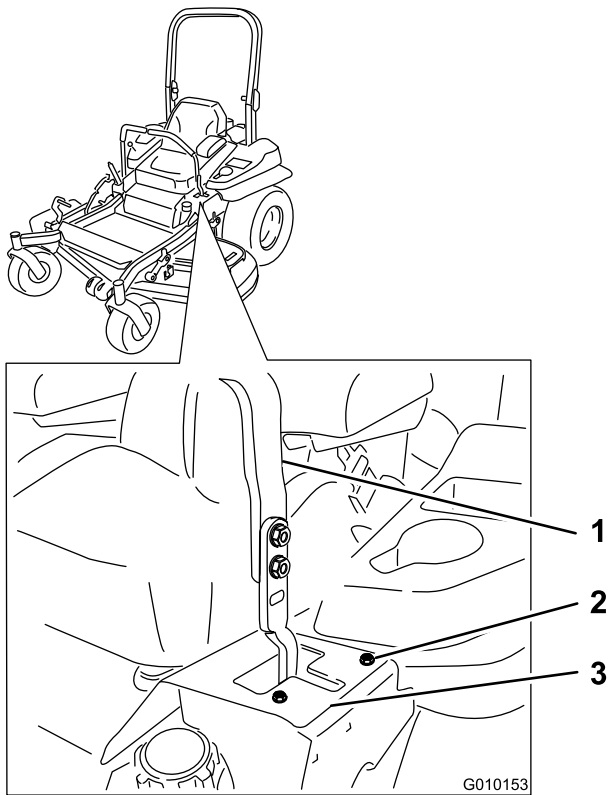

Figure 51
6. If it tracks to the right, loosen the bolts and adjust the left stop plate rearward on the left T-slot until the machine tracks straight (Figure 51).
7. If it tracks to the left, loosen the bolts and adjust the right stop plate rearward on the right T-slot until the machine tracks straight (Figure 51).
8. Tighten the stop plate (Figure 51).